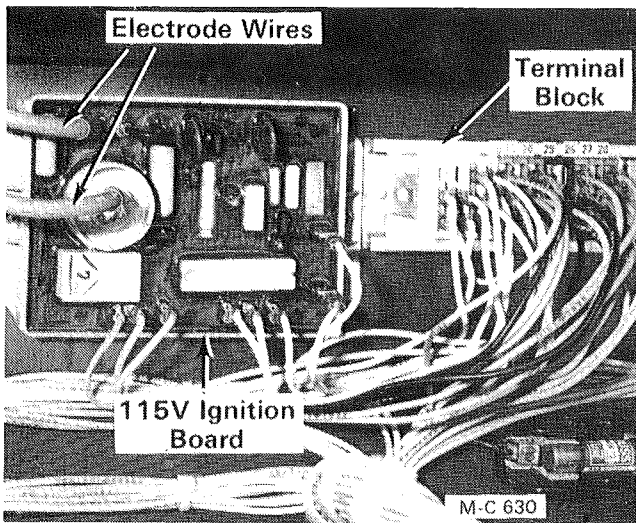

Figure 62
3. Check to be sure that there is 115V power to the ignition board. Connect a voltmeter between terminal **A (L1)** and **L2** on the ignition board, see Figure 62, 62A, 63, 64 and 65. Flip the ignition switch ON. The
4. If there is 115V between terminal **A (L1)** and **L2** check for 115V at terminal **B (V1)** on the ignition board, see Figure 62, 62A, 63, 64 and 65. Connect a voltmeter between terminal **V2** and **B (V1)** on the ignition board. Flip the ignition switch OFF then ON, the voltmeter should read 115V. If not, the ignition board is defective and must be replaced.